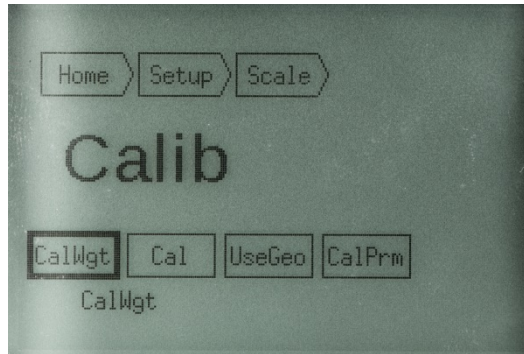

Figure 4-25: Calibration Setup Screen
1. In the Calibration setup screen (Figure 4-25), scroll to **UseGeo** and press ENTER.